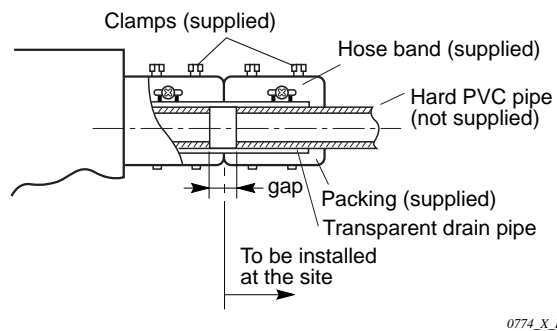

Fig. 3-11
- (1) Prepare a standard hard PVC pipe (O.D. 32 mm) for the drain and use the supplied drain hose and hose band to prevent water leaks. The PVC pipe must be purchased separately. The transparent drain pipe allows you to check drainage. (Fig. 3-11)
**Tighten the hose clamps so their locking nuts face upward. (Fig 3-11)**